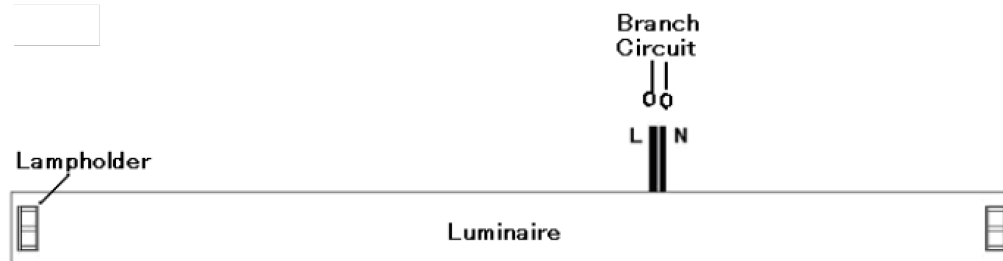

Figure 1
**STEP 3:** Disconnect luminaire supply wirings **L** and **N** to branch circuit as shown in Figure 1.